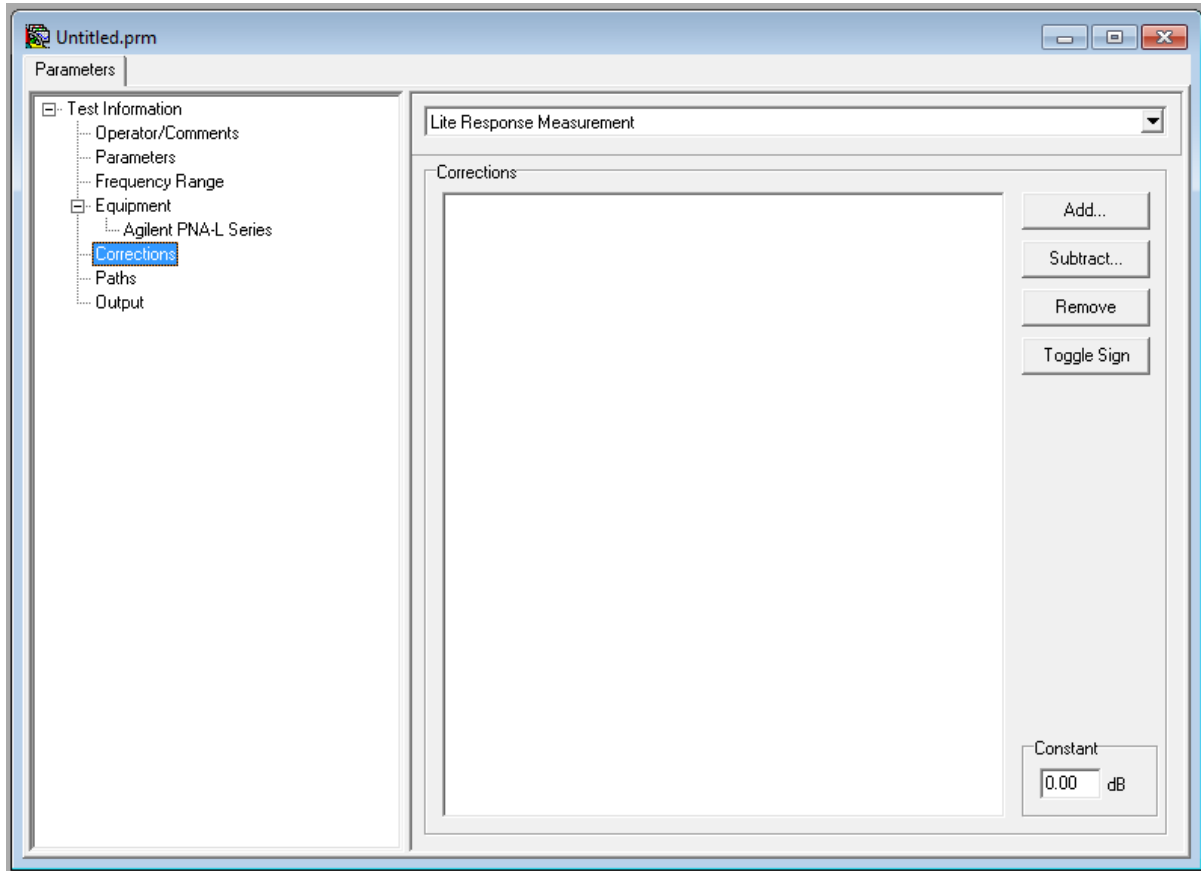

Figure 11. Corrections list box and options.
9. Select the "**Corrections**" pane to enter any corrections that you want applied to measured data. The "Corrections" list box in each tree element (see Figure 11) shows a list of response file names for frequency dependent corrections, where a "+" or "-" sign in front of the file name indicates that the corresponding data will be either added or subtracted from the results. The buttons on the right can